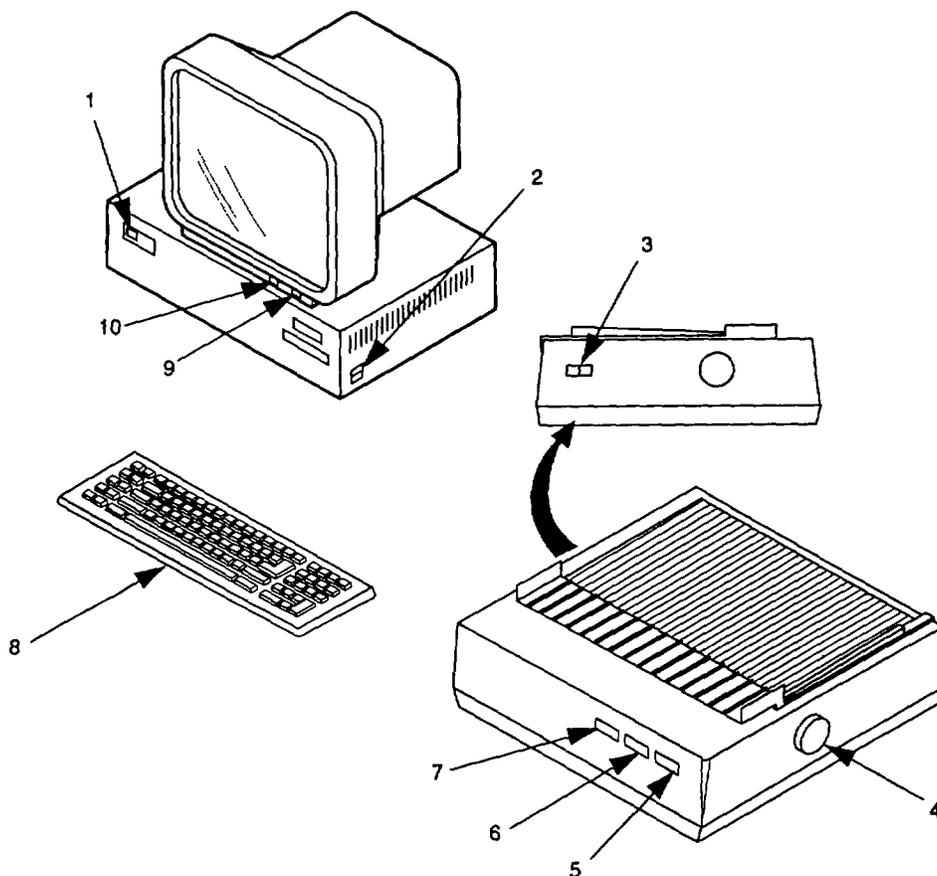
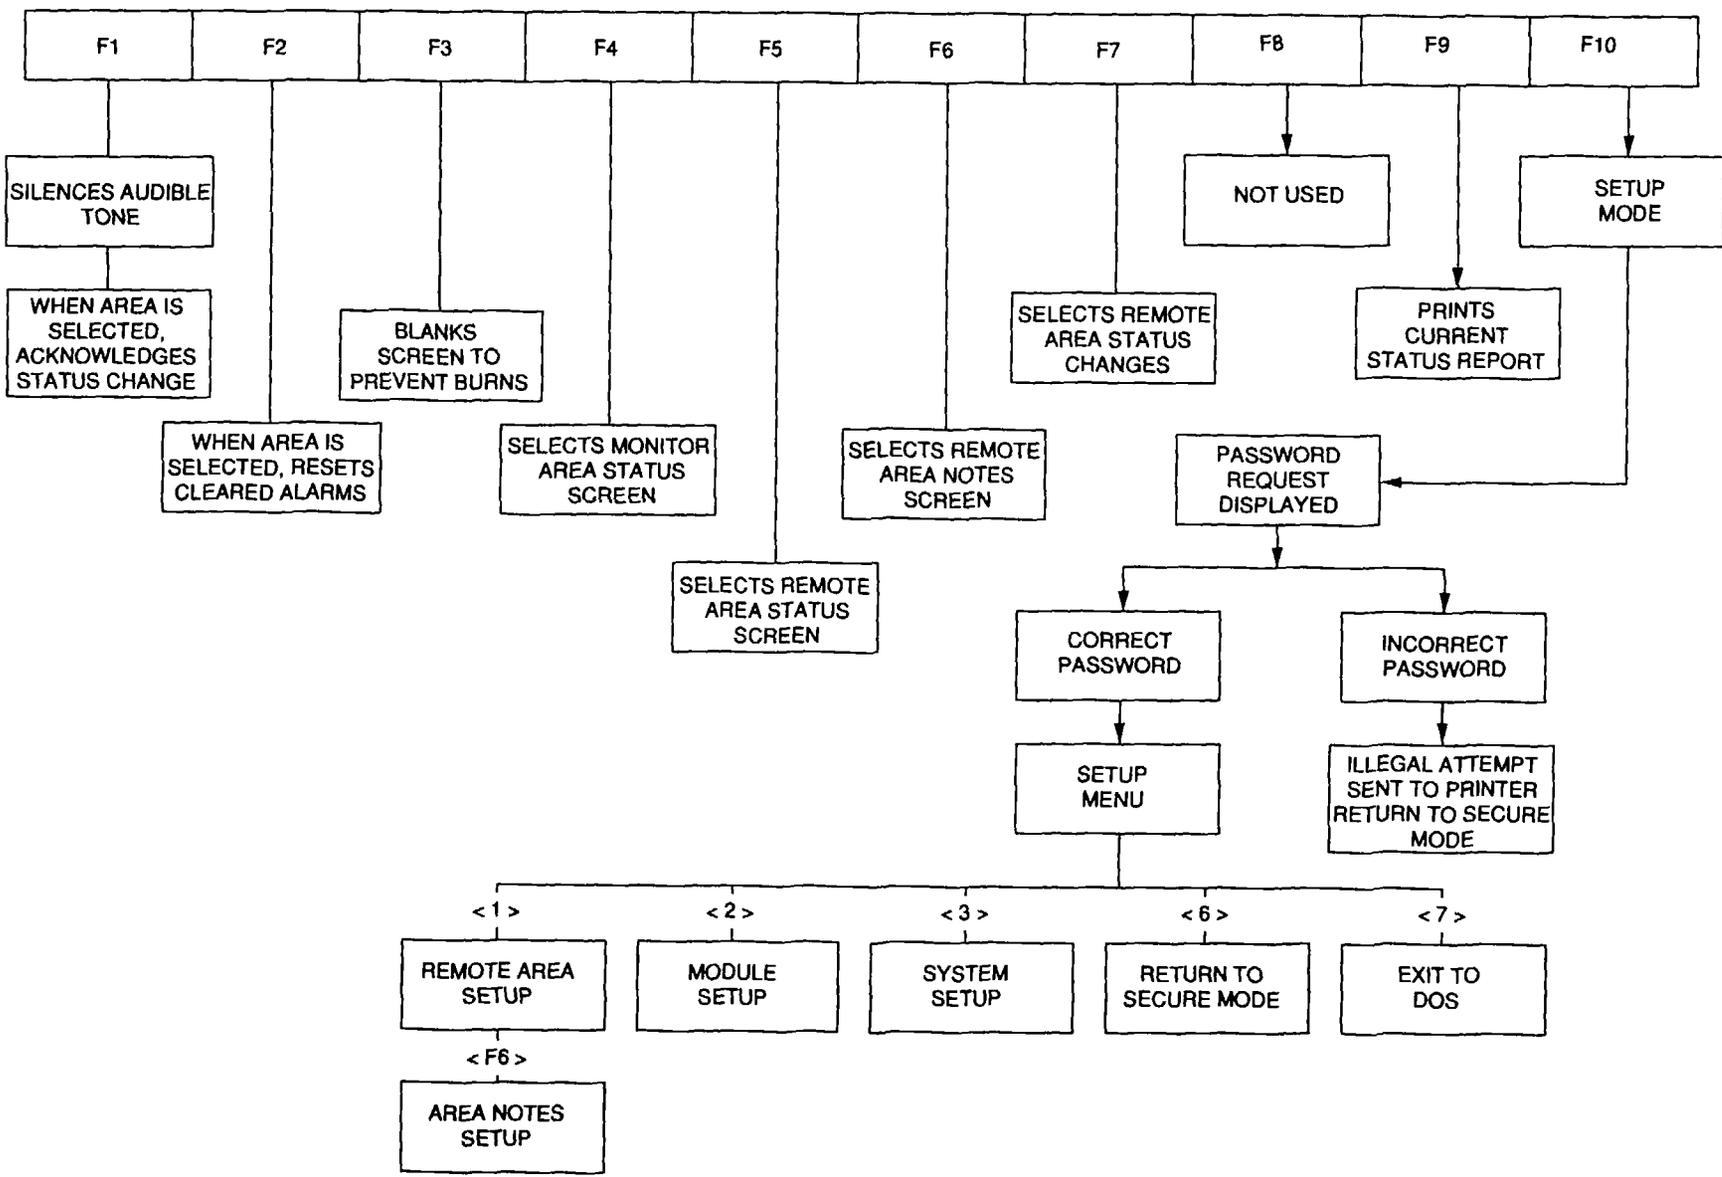

Figure 2-2. Computer Controls and Indicators (Typical).
Figure 2-3. Function Key Assignments.
2.1.3 Controls and Indicators IBM-PC/AT Compatible Computer. The computer (figure 2-2) provides the operational controls for the AMG. The controls and indicators for a typical computer are listed with a description in table 2-2. Refer to commercial manuals provided with the computer for a more detailed description and location. The computer, under the control of the application software, selects the display screens and operational modes as determined by the associated function key (figure 2-3). The two modes of operation for the AMG are the Secure Mode and Setup Mode. The Secure Mode is used by the operator and the Setup Mode is used by designated personnel.